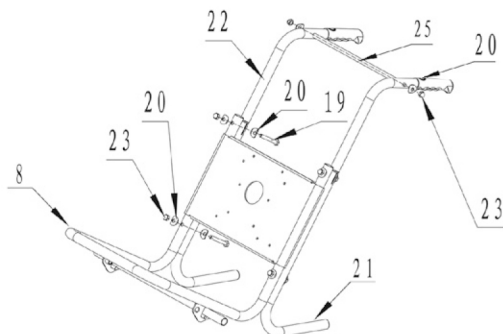

Fig.2
washers (20) and nuts (23).(Fig.2)